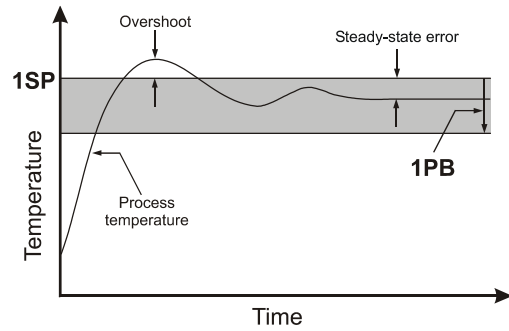

Figure 3 Proportional Control (P) in heating mode
4.3. PID control. In the PID mode the output is ON for a fraction of the cycle time **1CT**. The cycle time characterises the dynamics of the system to be controlled and influences the accuracy of the control: the higher the system speed of response the shorter the cycle time to obtain greater temperature stability and less sensitivity to variations in load. Assign a negative value to **1PB** to make channel 1 operate in the heating mode (see Figure 3) and a positive value for control in the cooling mode. With **1PB=0** the output is permanently cut out.